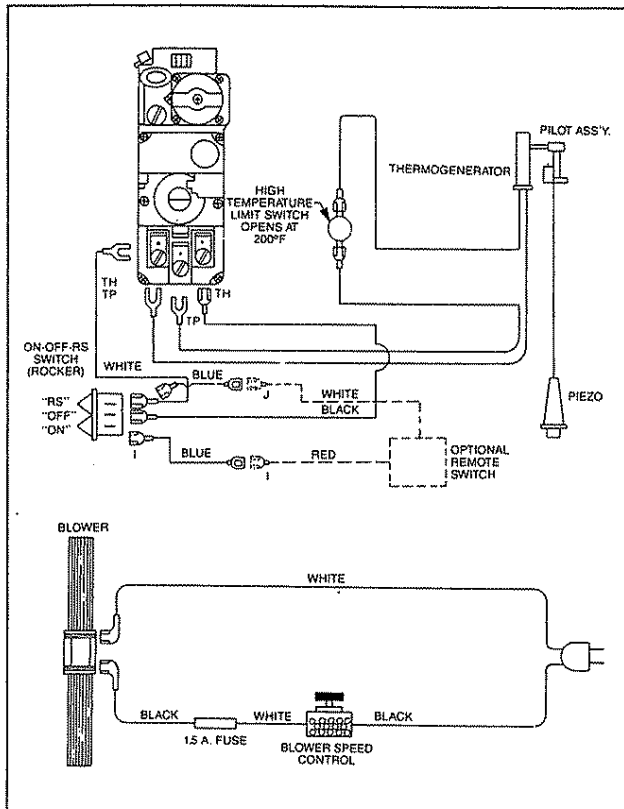
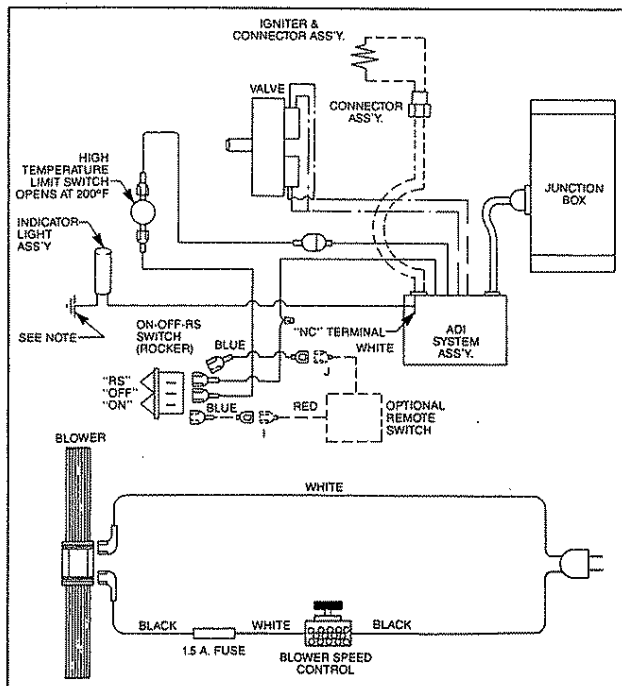

Fig. 33. G2000pi wiring diagram.
Fig. 34. G2000adi wiring diagram.
Duct run must be limited to a maximum distance of 40 feet from the fireplace pipe collar to duct termination. This will provide the least restriction to air flow. No more than four 90° elbows can be used. Duct run may be horizontal, vertical, inclined or any combination of these. Vertical duct runs must be at least three (3) feet below the fireplace chimney flue exit. (See Fig. 33.) You are now ready to install the G1000-AK Outside Air Kit.
Refer to GWSK installation instructions for attachment. Attach red wire (connector end I, see Figs. 33. and 34.) of remote switch to short blue wire from control box (bottom right of fireplace) and white wire J connectors to the second short blue wire from control box.
Position wireless remote sensor on bottom of fireplace. Attach one (1) connector J to short blue wire from the rocker switch and the other connector I to the second short blue wire from the rocker switch. See Fig. 33. (G2000pi) and Fig. 34. (G2000adi).